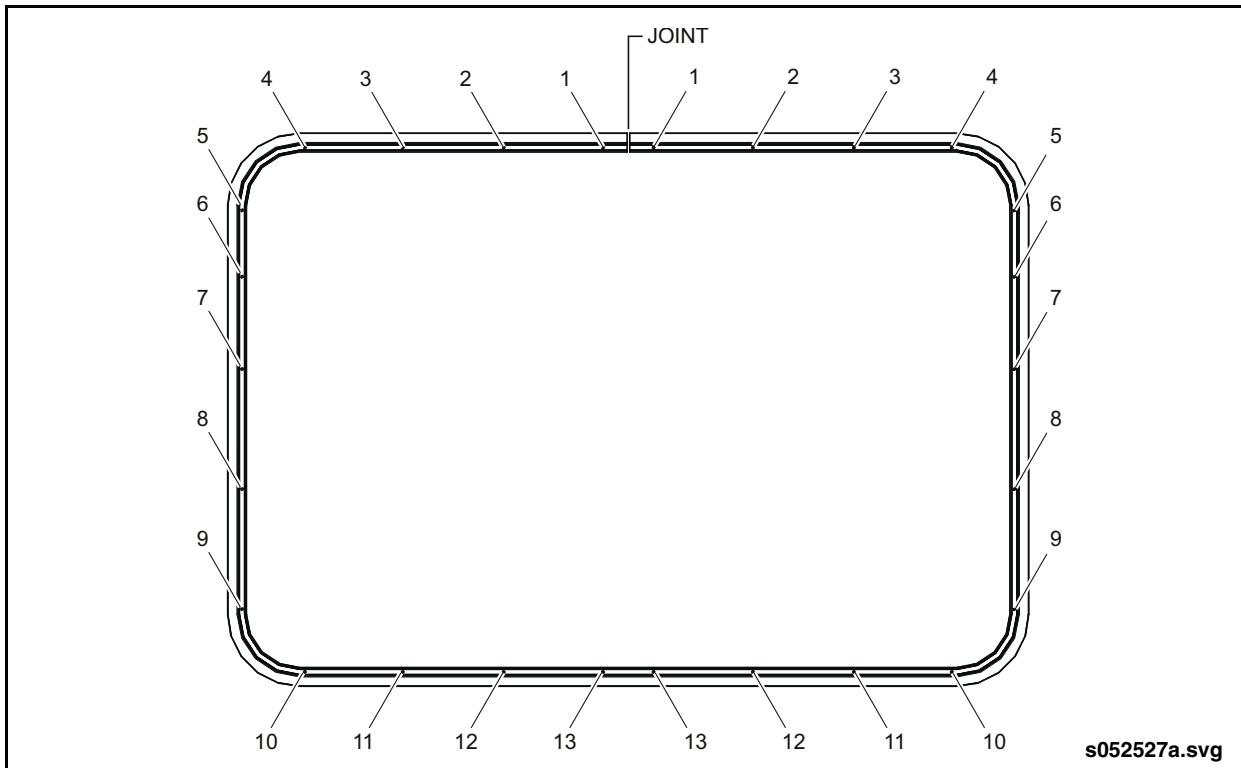

Fig. 14-28: Final Screw Tightening Sequence
7. Apply final torque of 45 in-lb. to all screws in proper sequence. See “Fig. 14-28: Final Screw Tightening Sequence” on page 34.